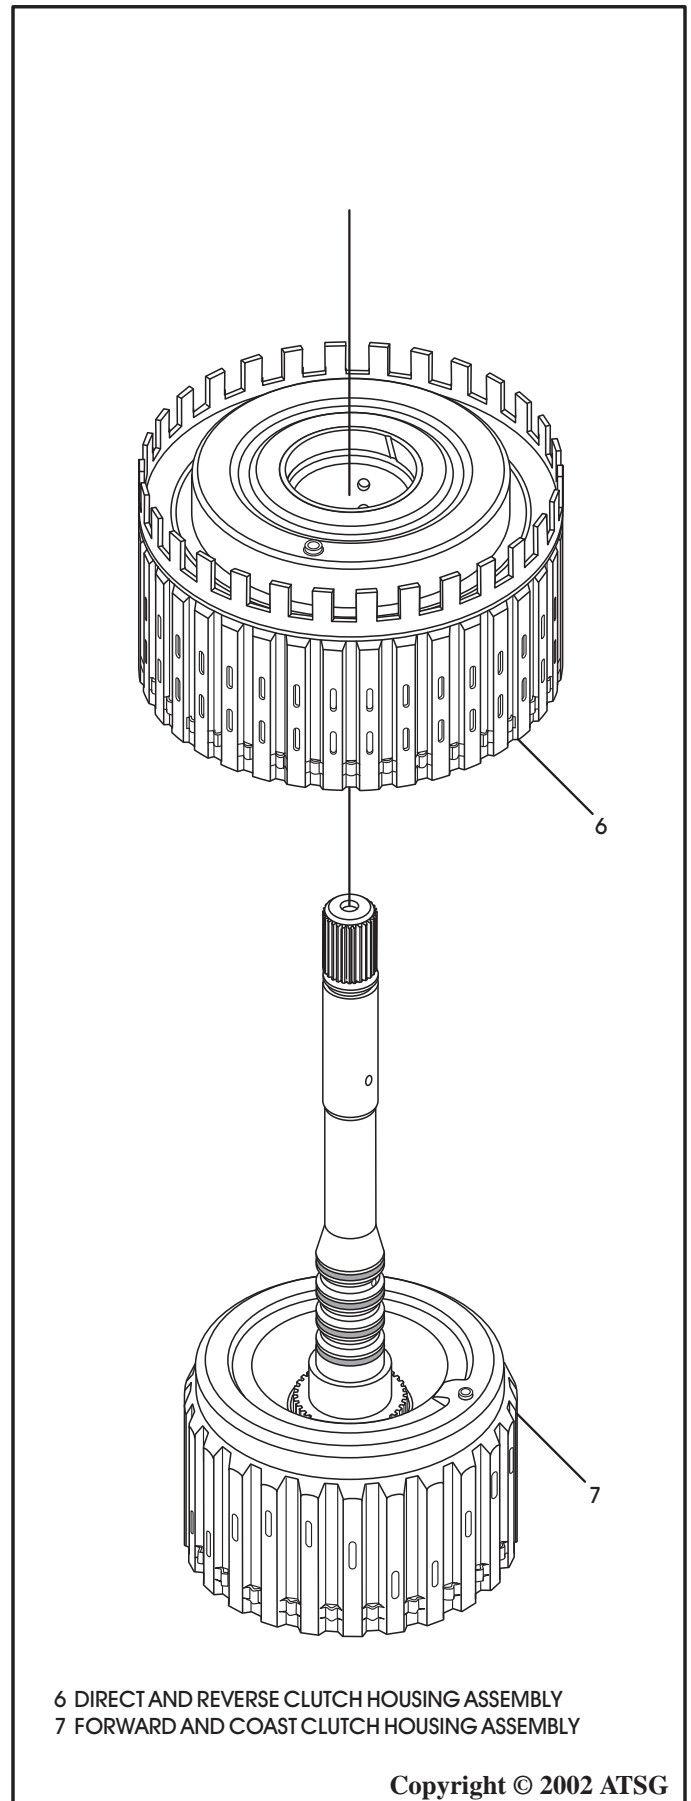

Figure 187
19. Install the reverse clutch housing on forward and coast clutch housing by rotating back and forth to engage the reverse clutch plates, until fully seated and splines engaged on forward clutch housing (See Figure 187).